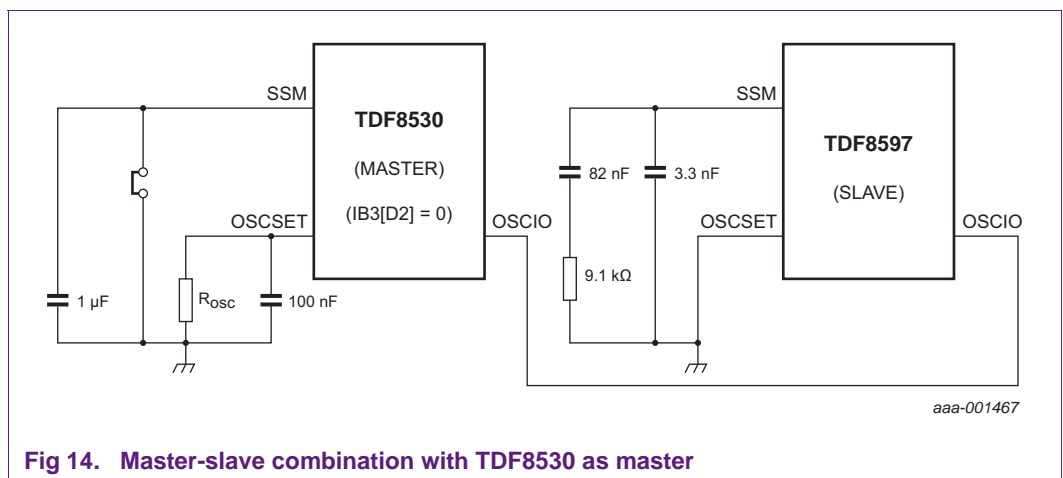

Fig 14. Master-slave combination with TDF8530 as master
- Use the TDF8530 as the master device, but set its oscillator frequency to match the single PWM frequency by setting IB3[D2] to logic 0. The output signal at pin OSCIO is then the single PWM frequency. It is advisable to use the slave devices in PLL mode to compensate for any disturbances to the clock signal. This configuration is shown in Figure 14.